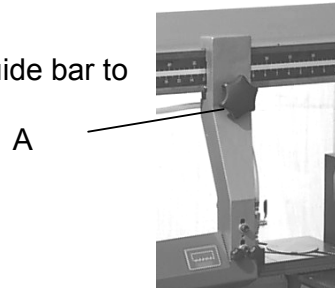

Fig.8
First loosen clamp knob (A) (fig. 8). Move the left blade guide bar to the suitable position. Then tighten clamp knob (A).